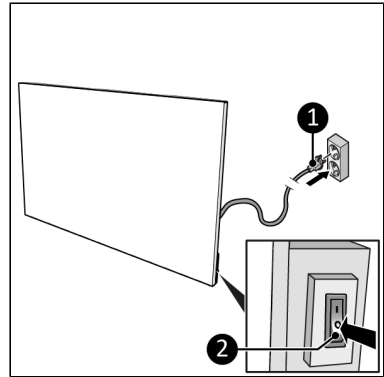

Figure 22.
2. Make sure the ON/OFF switch is in the OFF position (Figure 22, pos. 2).
3. Place the power plug (Figure 22, pos. 1) into an earthed wall socket that is easily accessible. Use an earthed wall socket with a minimum power of 800 Watt.